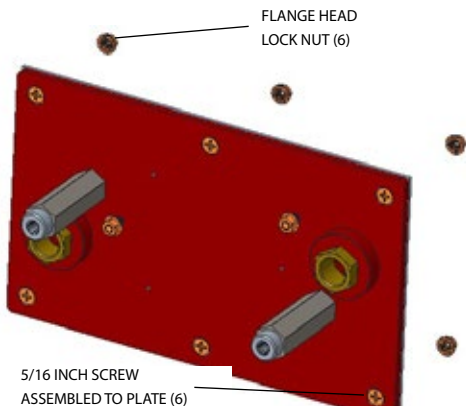

Figure 6—Q5017R Duct mount panel assembly and hardware
5. Remove the six lock nuts from the perimeter of the plate. The screws are threaded through the plate, and should remain in place (Figure 6).